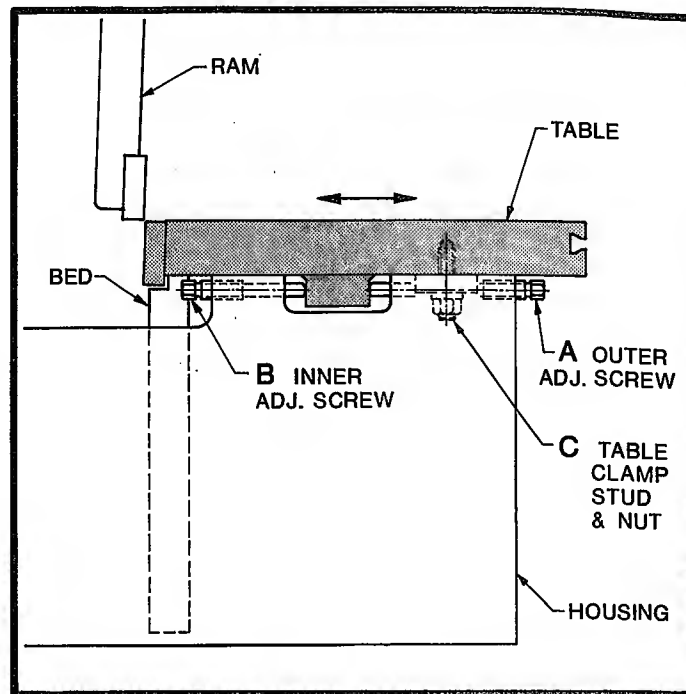

FIGURE 50
7. Knife Clearance - When the shear was shipped from the factory, the knife clearance was properly set. During shipment this clearance may have changed. To avoid possible damage to the knives on initial start-up, the table must be moved away from the ram to increase knife clearance. Refer to Figure 50.